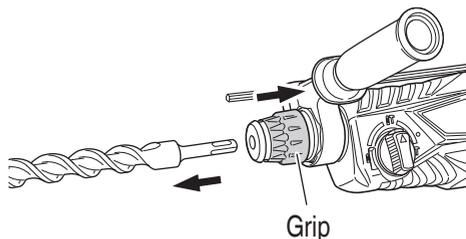

Fig. 2
- (3) Check the latching by pulling on the drill bit.
(4) To remove the drill bit, fully pull the grip in the direction of the arrow and pull out the drill bit (Fig. 2).